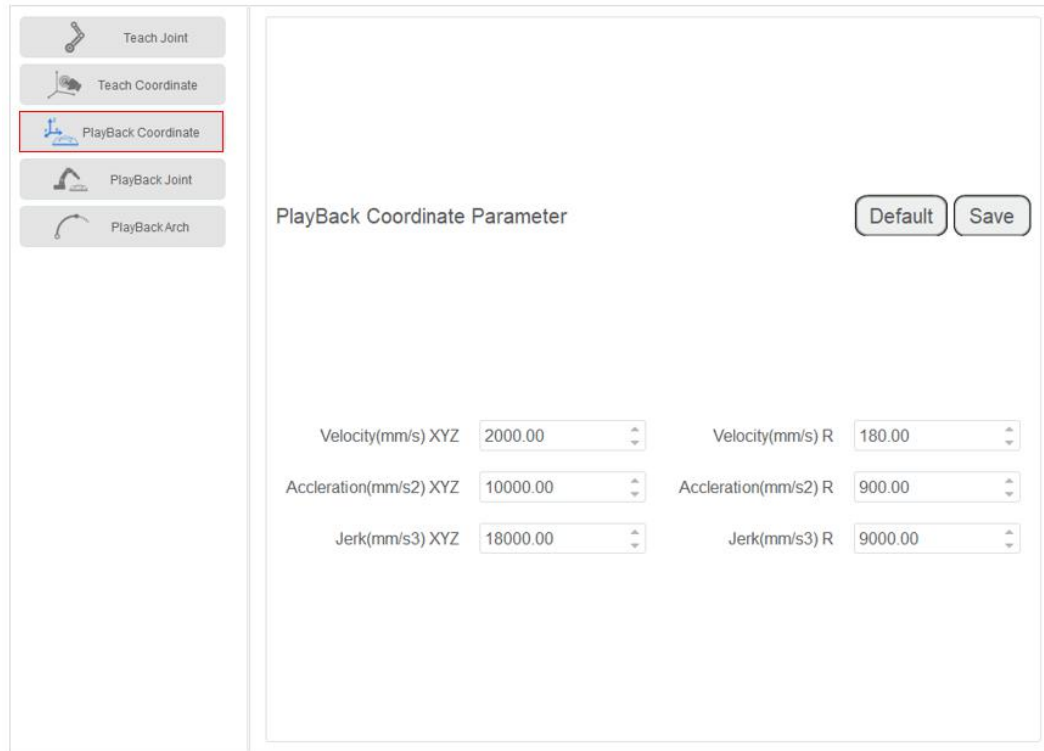

Figure 3.40 Playback parameters in the Cartesian coordinate system
- Playback Coordinate Parameter: Set the maximum velocity, acceleration and jerk in the Cartesian coordinate system when running robot programs. The playback parameters of a robot in the Cartesian coordinate system are as shown in Figure 3.40.